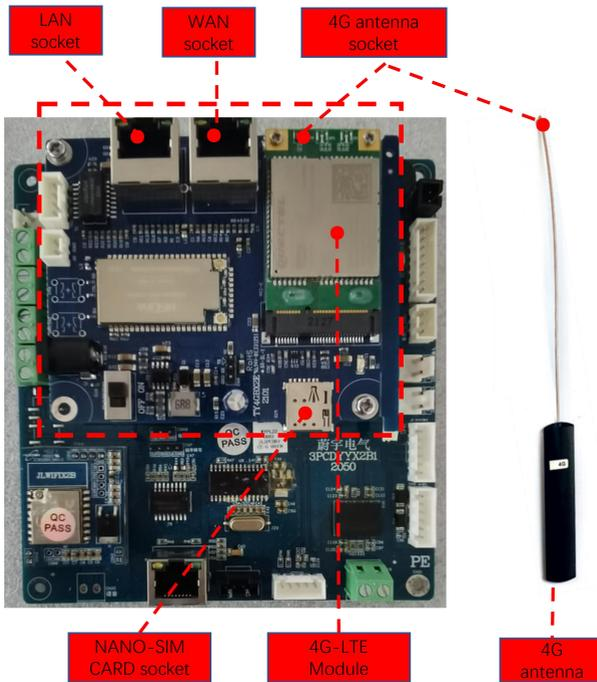

Fig. 5-8 4G PCB in the charging station
- b) Open the back cover of the charging station with screws. And you should see the PCBAs (shown as Fig. 5-8).